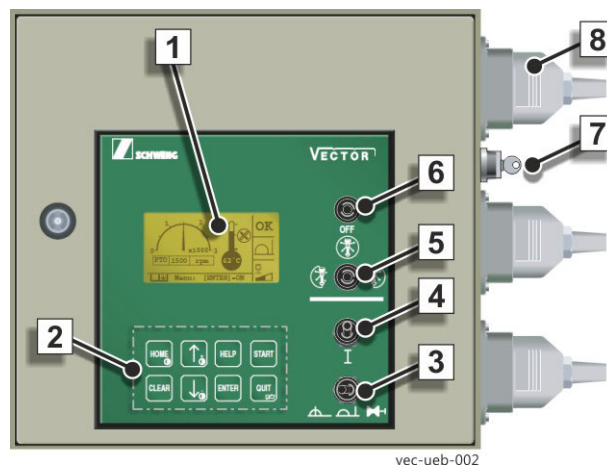

Fig. 391 Cable connector X 15 VECTOR
- Make sure that the cable connector X15 (8) (**Fig. 391**) or (**Fig. 392**) of the radio receiver is plugged into the switch cabinet of the machine.